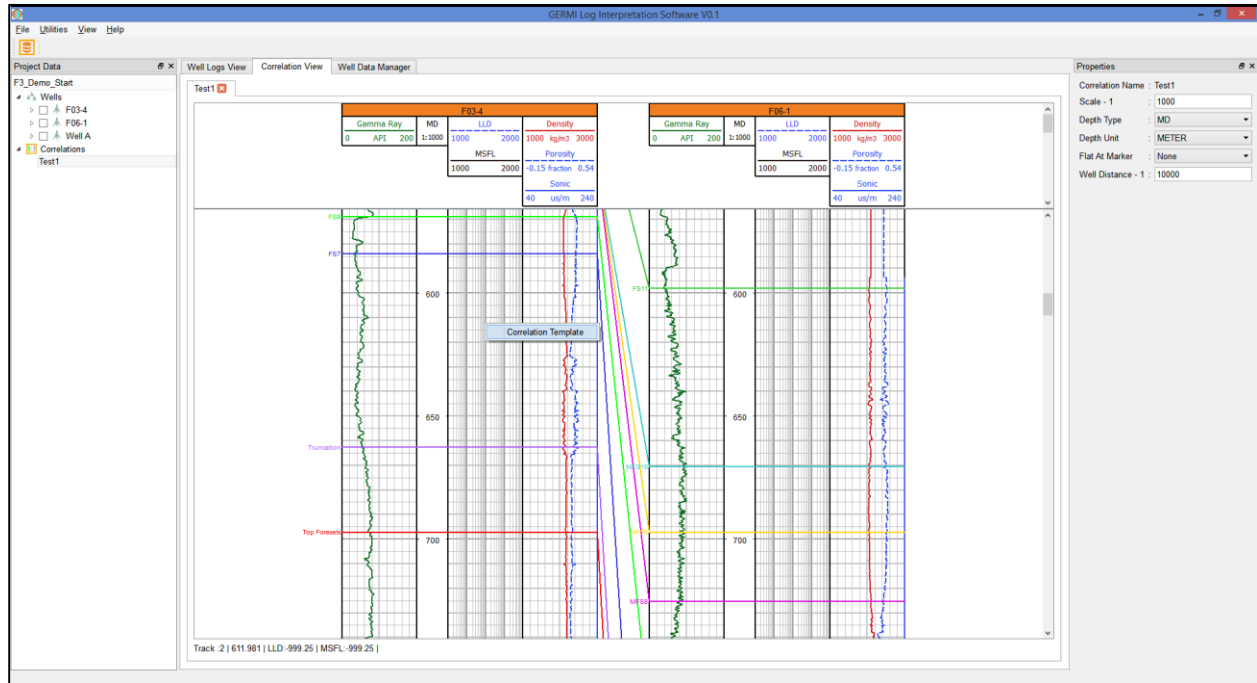

Figure 5.8 “Correlation Template” option in Correlation view.
Step 7: User can open the correlation template edit window using right click on correlation view and then click on “**Correlation Template**” as shown in figure 5.8.